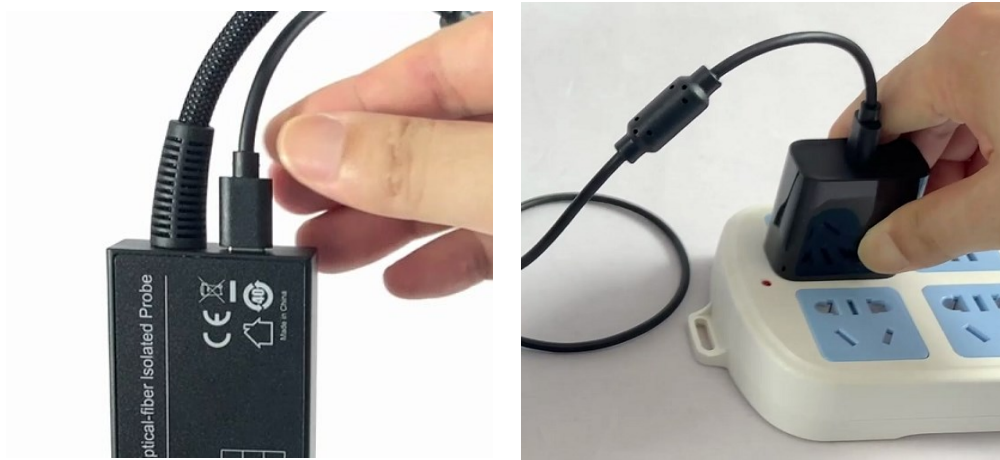

Figure. 3
4. Power the SigOFIT probe by connecting USB-C cable to O-E Converter using standard charger (localized) (Figure 3);